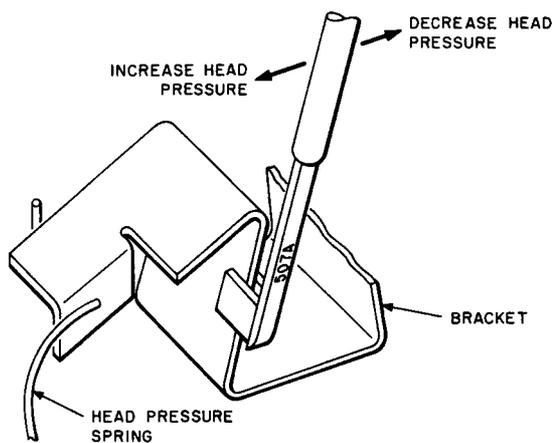

Fig. 12—Method of Adjusting Head Pressure
**3.07 Pressure of Record and Erase Heads Against Recording Band:** To change the pressure of the head against the recording band, bend the vertical part of the head pressure spring bracket by using the 507A tool as shown in Fig. 12.